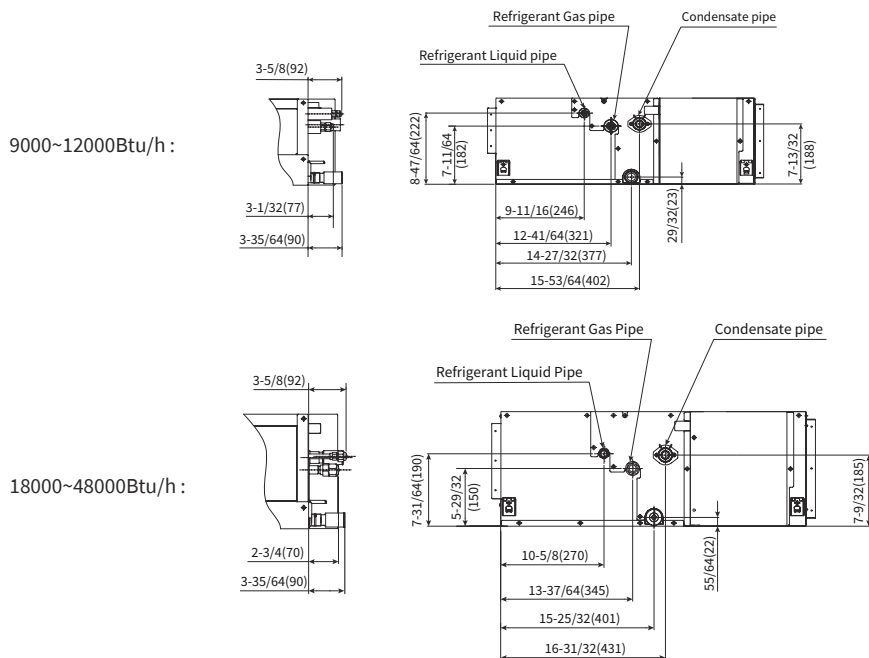

Figure 5.1 Positions of the Pipe Connection
- See positions of the pipe connection in figure 5.1.
- Position for the selected condensate pipe is shown in figure 5.1 and the drain hole below is blocked with a rubber plug.